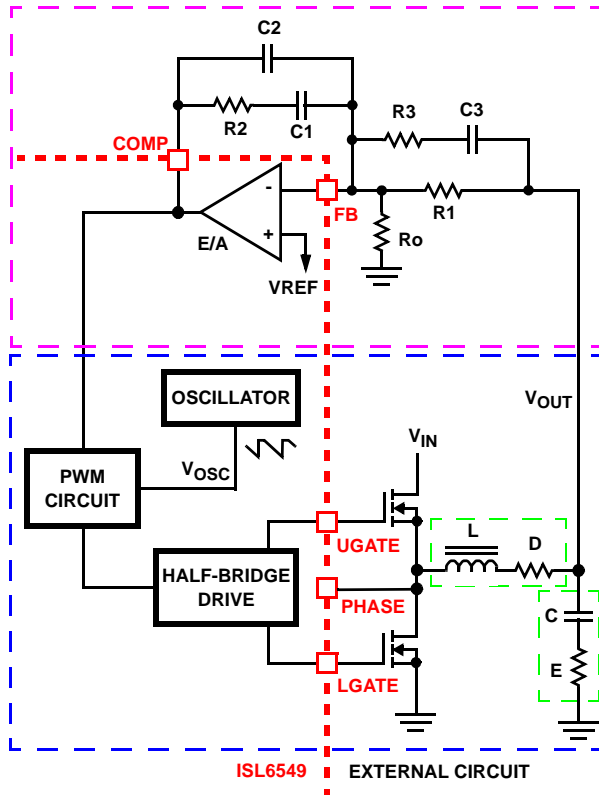

FIGURE 10. VOLTAGE-MODE BUCK CONVERTER COMPENSATION DESIGN
Figure 10 highlights the voltage-mode control loop for a synchronous-rectified buck converter, applicable to the ISL6549 circuit. The output voltage (VOUT) is regulated to the reference voltage, VREF. The error amplifier output (COMP pin voltage) is compared with the oscillator (OSC) modified saw-tooth wave to provide a pulse-width modulated wave with an amplitude of VIN at the PHASE node. The PWM wave is smoothed by the output filter (L and C). The output filter capacitor bank's equivalent series resistance is represented by the series resistor E.
The compensation network consists of the error amplifier (internal to the ISL6549) and the external R1-R3, C1-C3 components. The goal of the compensation network is to provide a closed loop transfer function with high 0dB crossing frequency (F0; typically 0.1 to 0.3 of FSW) and adequate phase margin (better than 45 degrees). Phase margin is the difference between the closed loop phase at F0dB and 180°. The equations that follow relate the compensation network's poles, zeros and gain to the components (R1, R2, R3, C1, C2, and C3) in Figure 10.
1. Select a value for R1 (1kΩ to 5kΩ, typically). Calculate value for R2 for desired converter bandwidth (F_0). If setting the output voltage via an offset resistor connected to the FB pin, R_o in Figure 10, the design procedure can be followed as presented.